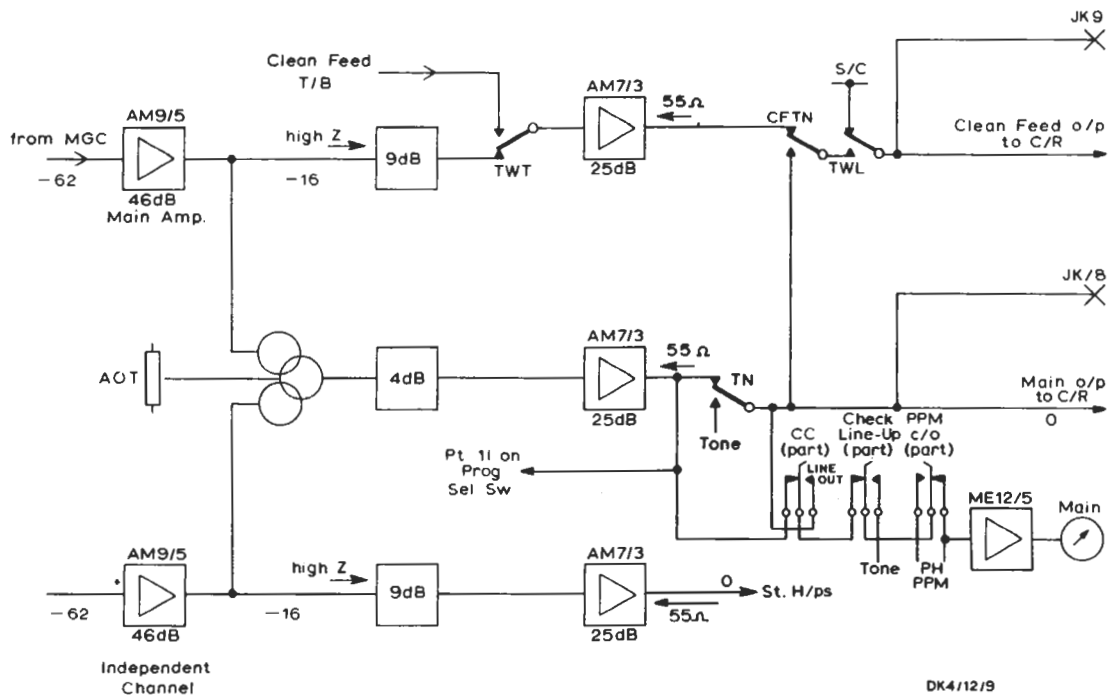
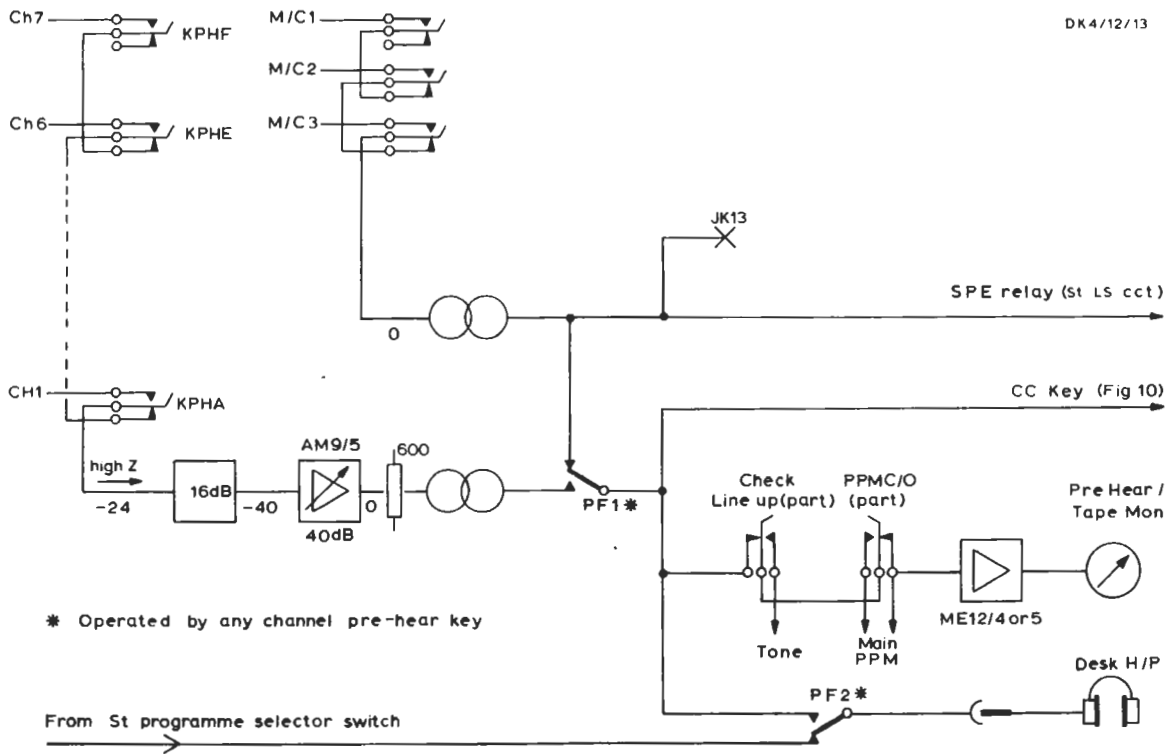

Fig. 9. Output Circuits
Fig. 13. Prehear and Tape Monitoring
### Output Circuits (Fig. 9)
### Monitoring (Figs. 9, 10 and 13)
Visual monitoring is carried out on two peak programme meters driven by ME12/5 amplifiers. The amplifier panels have space for ME12/4 amplifiers if these are desired. The Main meter (Fig. 9) may be switched to the desk output (point 11 on the Programme Select switch) or to Line Out, a monitor point after the tone relay, by the white Comp. Check key. The other meter (Fig. 13) may be used on any of the channel prehear circuits when the Comp. Check key is operated to Prehear, or it may measure any local tape machine monitor output. The functions of the two programme meters may be interchanged by a locking pushbutton situated between them. A three-position Check Line-up key feeds line-up tone to either meter amplifier.
- (b) It connects the output of the clean feed amplifier to the clean feed line via relay TWL (Fig. 9).
- (c) It prepares a circuit for clean feed talkback relay TWT (Fig. 9), either in the rehearsal con-
- (d) It prepares a circuit for clean feed tone relay CFTN (Fig. 9).
Line-up tone to the clean feed line is obtained via relay CFTN (Fig. 9) by operation of the Tone button, which also causes tone to be sent on the main output via relay TN. (See 'Output Circuits'.)
**Prehear/Tape Mon. (Fig. 13)**